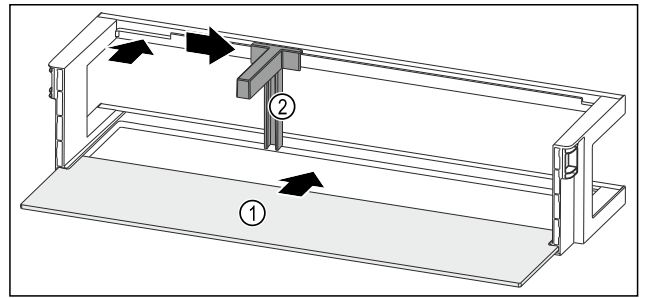

Fig. 136 Door rack with shelf
- ▶ Push the shelf Fig. 136 (1) into the side recesses.
- ▶ Insert the bottle holder Fig. 136 (2) in the recess.
- ▶ Push the bottle holder Fig. 136 (2) to the desired position to the side.